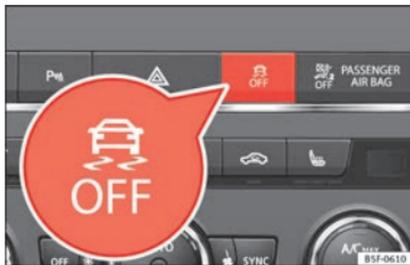

Fig. 146 Centre console: Button for switching on/off the ESC and ASR
- Press the button  » Fig. 146 for approximately 1 second to switch off the ASR function.
- Press the button  » Fig. 146 for approximately 3 seconds to switch off the Electronic »
- The ASR and ESC function are reconnected by pressing the button  » **Fig. 146.**